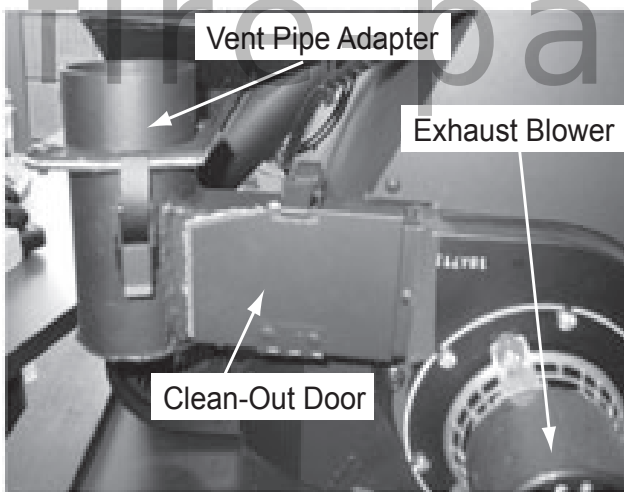
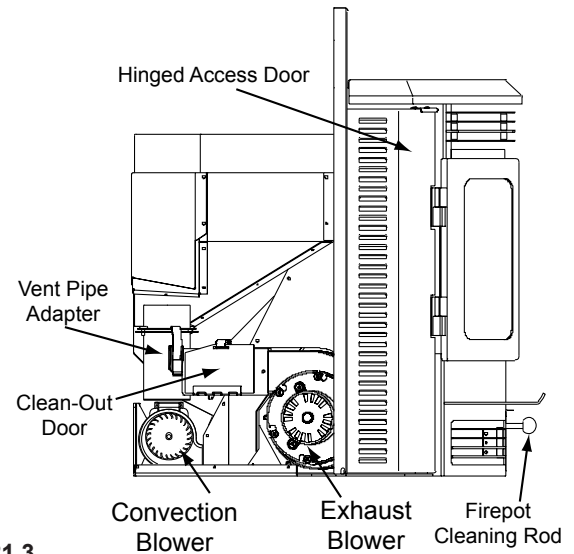

Figure 21.2
Figure 21.3
- Clean the exhaust blower blades while the access cover on the left side is still removed (Figure 21.2 and Figure 21.3).